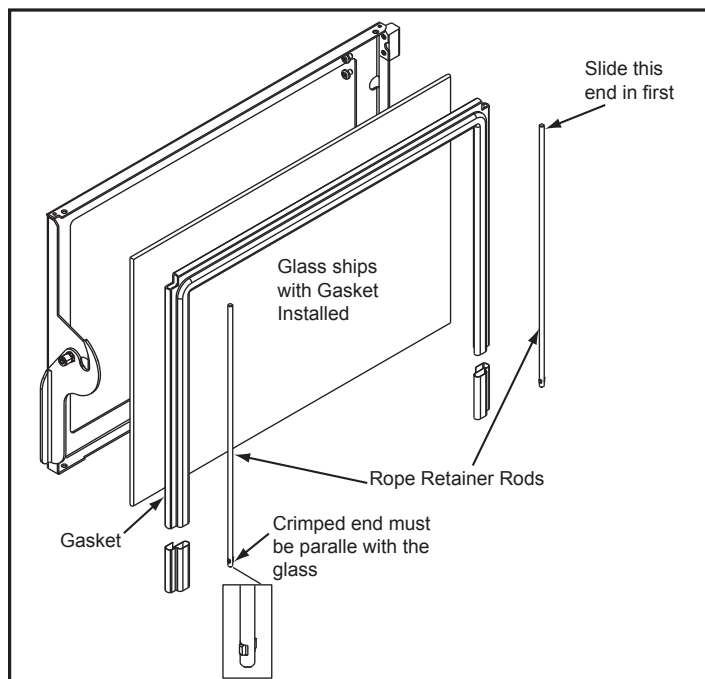

Figure 22.2
4. Slide the retainer rod into the top hole first, and then line up the bottom crimped end with the hole in the door. The crimped end must be parallel with the glass in order to insert it into place. **Figure 22.2.**